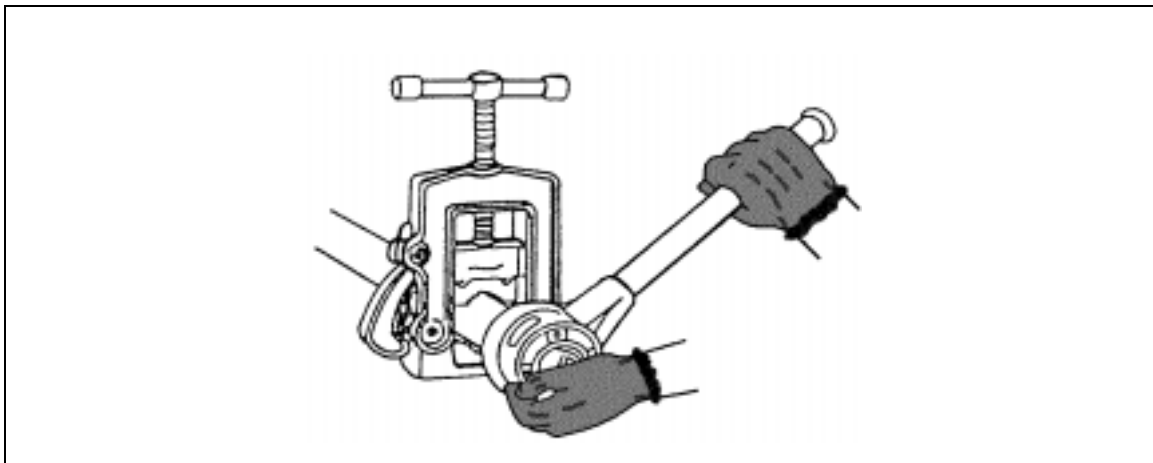

Figure 6-29. Threading Pipe
**Step 2.** Slide the diestock over the end of the pipe with the guide on the inside. Push the die against the pipe with one hand (*Figure 6-29*).